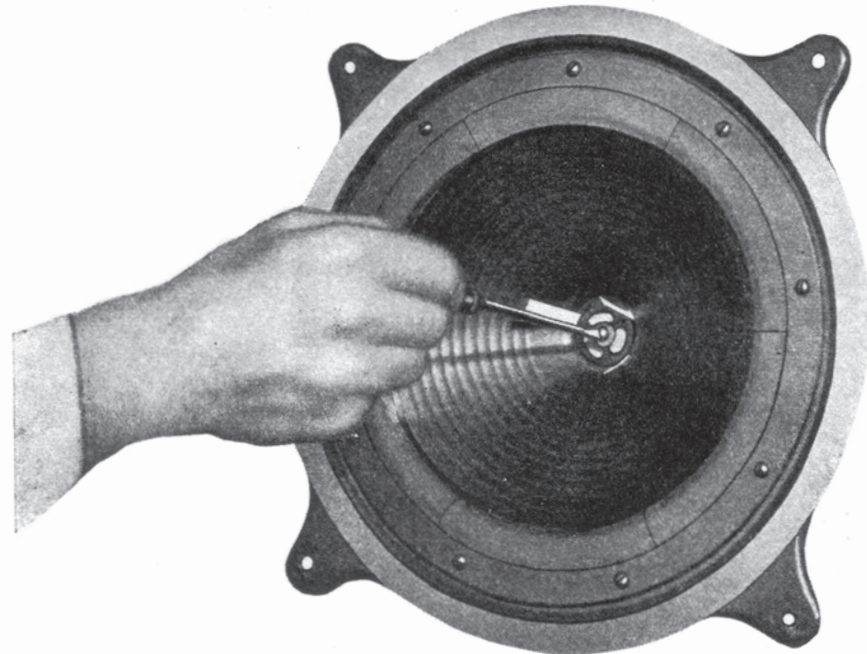

Figure 4—Centering cone
- (d) Tighten the center screw (Figure 4) holding the spider of the cone and remove the three strips. The cone is now properly centered. Replace the reproducer assembly in the cabinet in the reverse manner of that used to remove it.